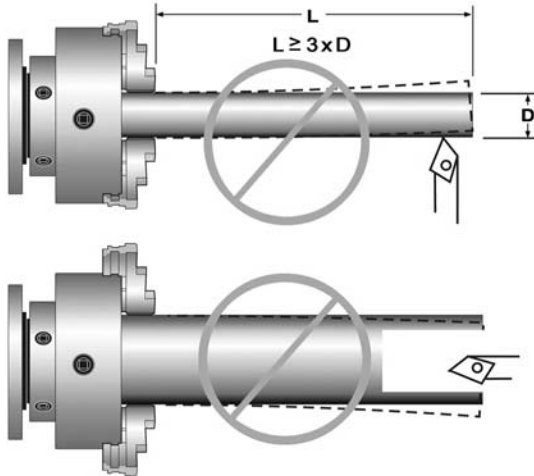

Figure 29 – Improper setups
- Avoid long workpiece extensions, as parts may bend or fly off (see figure 29). Use rests or the tailstock for support.